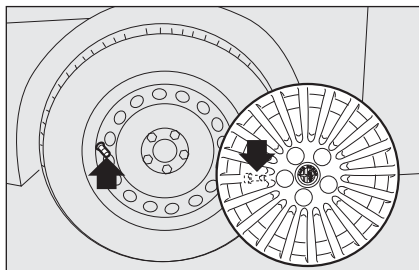

fig. 12
- Place the wheel cap on the wheel rim making symbol , (marked inside the wheel cap), coincide with the inflation valve **fig. 12**;